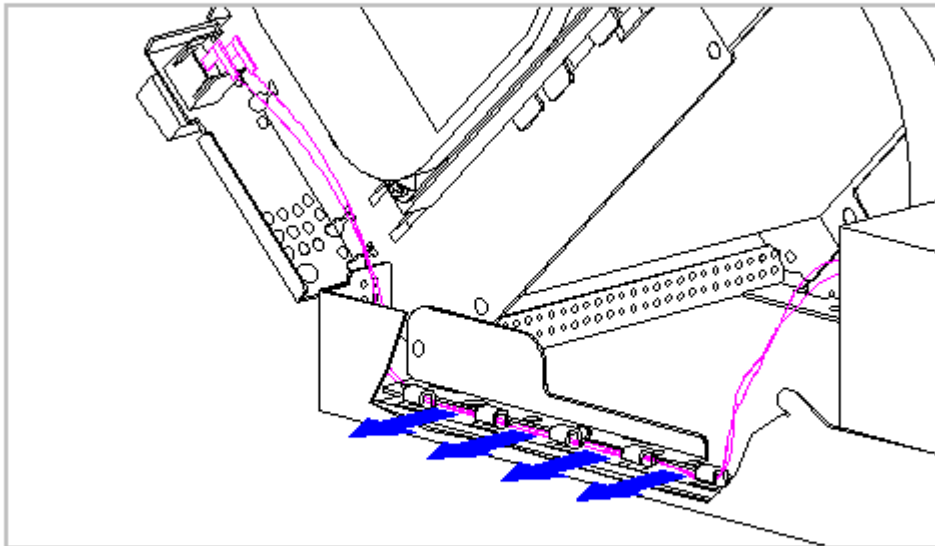

Figure 5-14. Releasing the Power Switch Wires from the Base Pan
7. Release the wires going to the power switch from the clamps on the base pan (Figure 5-14).